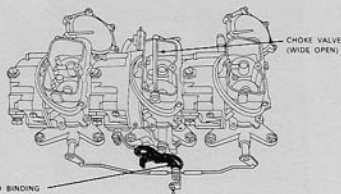
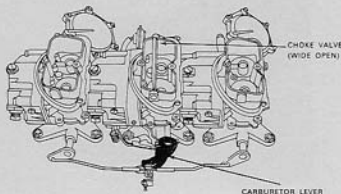

Fig. 8A
Fig. 8B
4. **LINKAGE ADJUSTMENT**—With engine off, move dash lever fully rearward (Figure 8B) against dash panel. Adjust throttle rod by turning rod in swivel to line throttle rod up with carburetor lever hole. No binding should occur between accelerator rod and carburetor lever (Figure 8A).